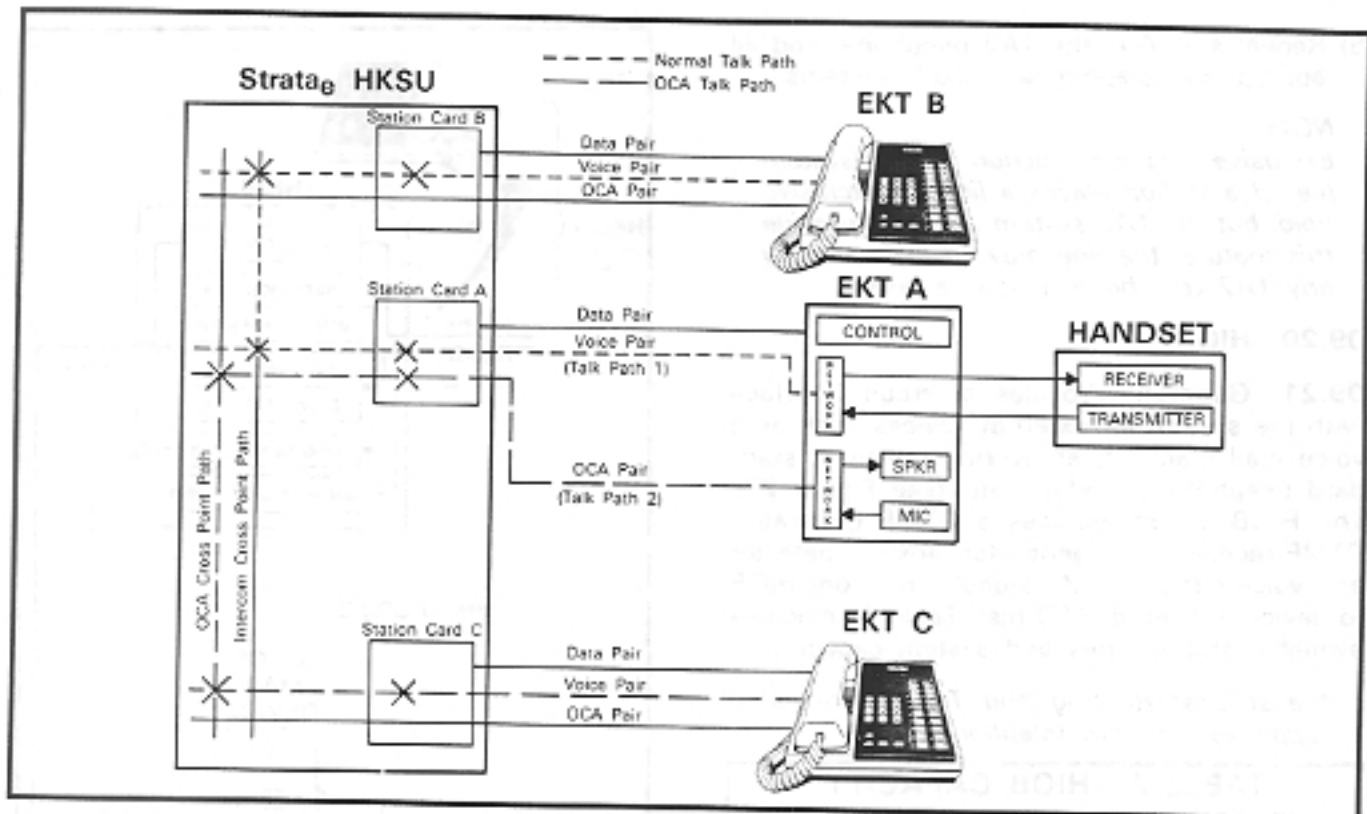

FIGURE 25—OFF-HOOK CALL ANNOUNCE FUNCTIONAL BLOCK DIAGRAM
09.01 General: Off-hook Call Announce (OCA) allows a station user, while in conversation via the handset (off-hook), to receive intercom calls through the EKT's speaker. The user may also reply via the EKT's microphone as long as the telephone remains off-hook. The feature is activated automatically or by dial access 2 on a programmable station-by-station basis (see Figure 25).